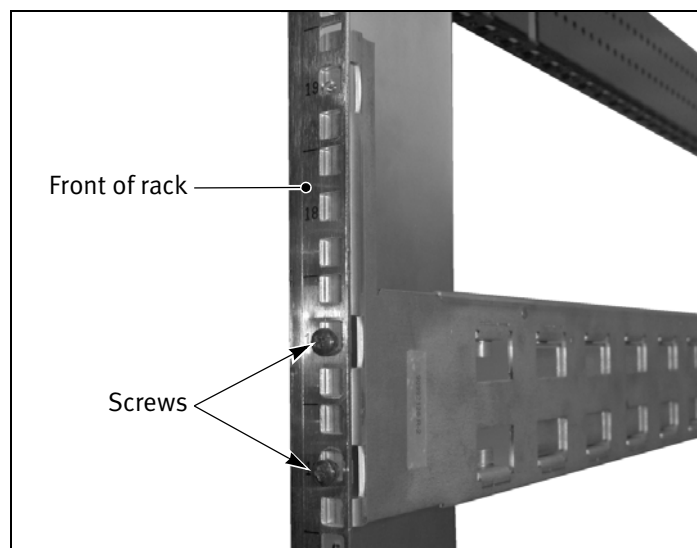

Figure 3 Attach front of the rail assembly to rack post.
3. With one person supporting the back of the rail assembly, use a #2 Phillips screwdriver to install two screws in the bottom two holes in the front mounting tab, securing the rail to the front post (Figure 3). Do not completely tighten the screws yet.